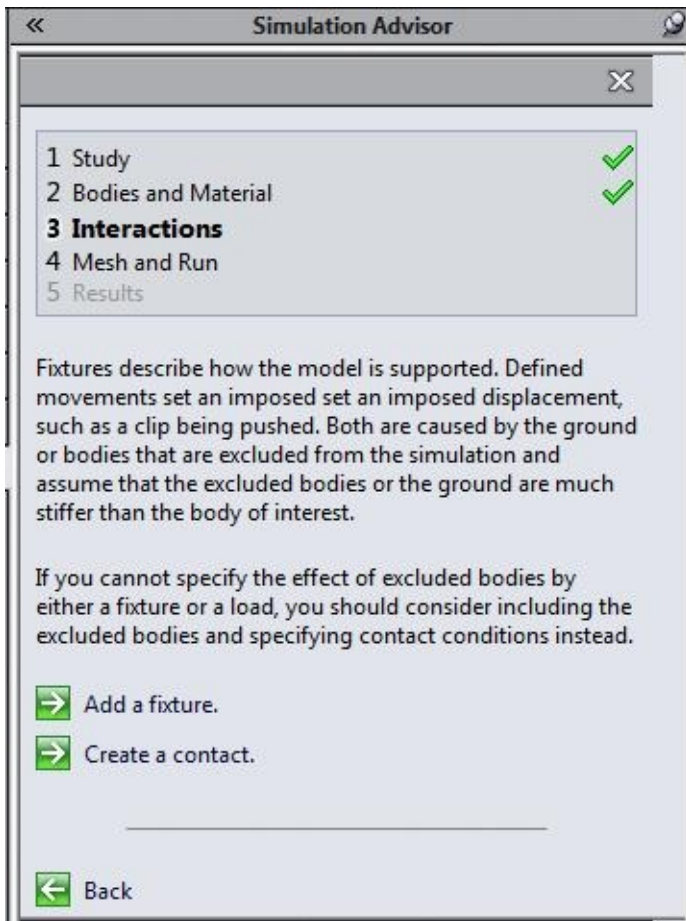

Figure-45. Options for fixture in Simulation Advisor
- Click on the **Fixtures Advisor** button from the **Ribbon**. The options related to fixtures will be displayed in the **Simulation Advisor**; refer to Figure-45.